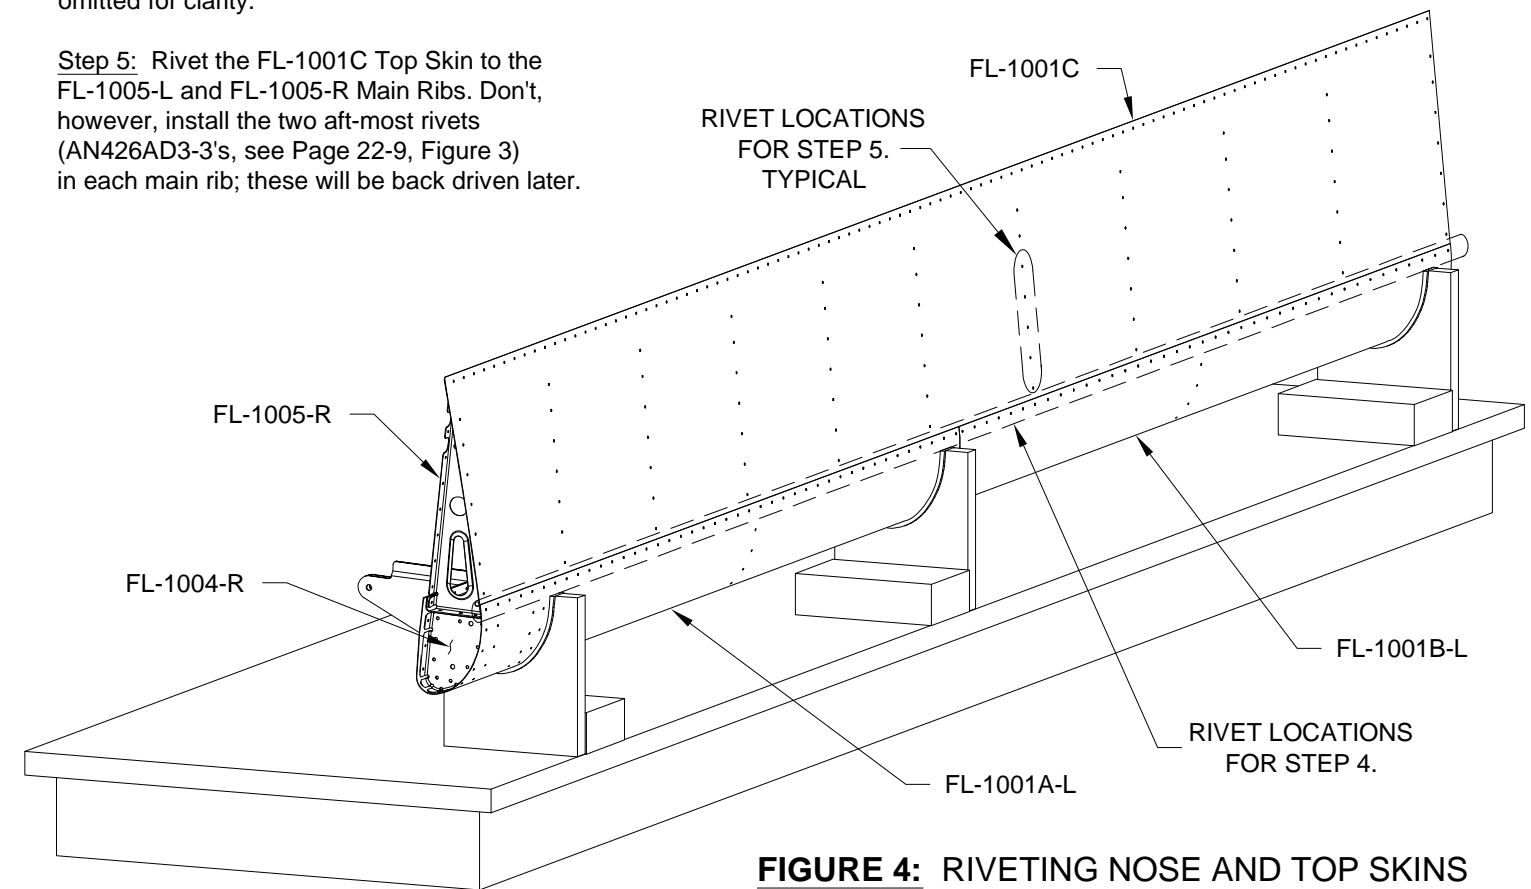

FIGURE 4: RIVETING NOSE AND TOP SKINS
Step 4: Rivet the FL-1001A-L Inboard Nose Skin, FL-1001B-L Outboard Nose Skin, FL-1001C Top Skin, and the small flange at the front of the FL-1005-L & -R Main Ribs to the top flange of the FL-1003-L Spar as shown in Figure 4. Some rivet holes have been omitted for clarity.